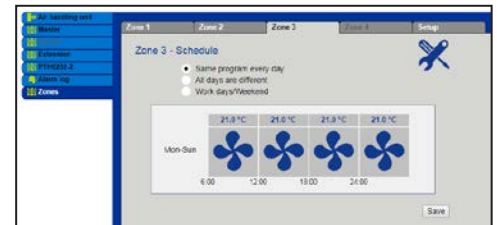

Fig. 2
- Is the same for each and every day of the week (see fig. 2)